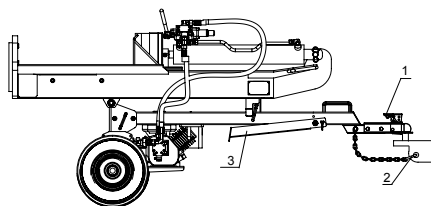

Figure 14
3. Rotate front leg up and install the lock pin. (See fig. 14)